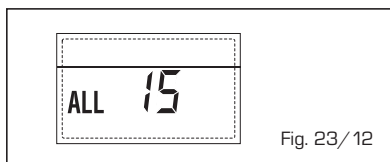

Fig. 23/12
- **ANOMALÍA SONDA EXTERNA "⬆️ PARPADEANT"** (fig. 23/13)